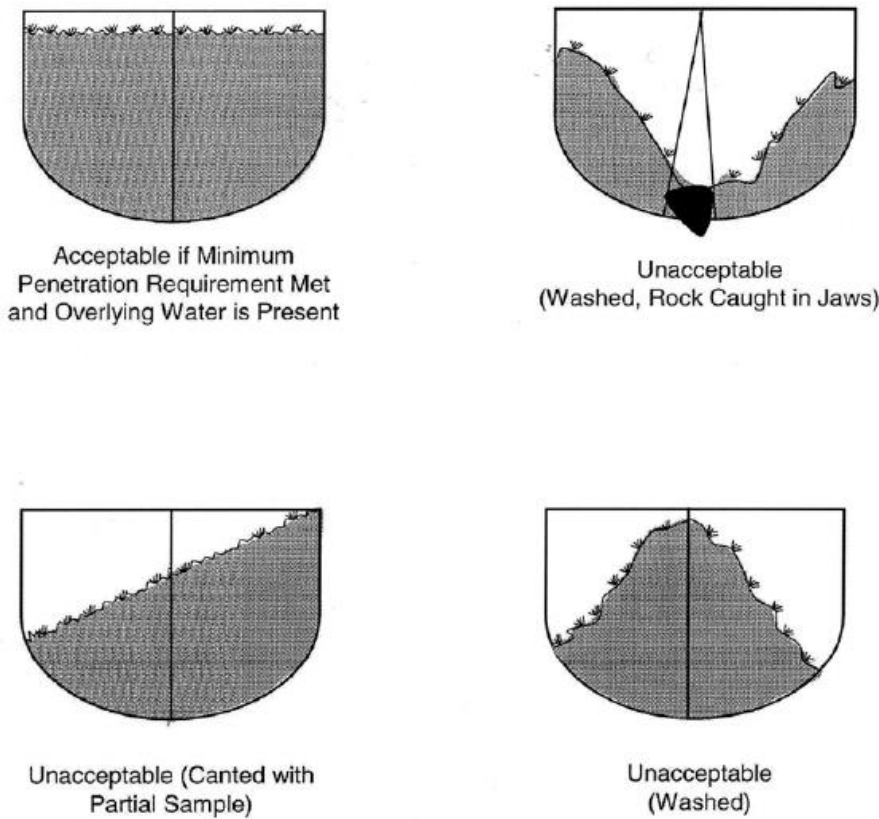

Figure A-1. Examples of Acceptable and Unacceptable Sediment Grab Samples.
8. Check sample acceptability (e.g., closed sampler, not overfilled, adequate penetration depth achieved, minimal winnowing, approximately 10 cm sediment depth collected; Figure A-1). Accept the sample if criteria are met. If not acceptable, then the rejected sediment shall be temporarily stored until sampling at the site has been completed. Rejected sediment can be returned to the site – adjacent to the collection location – once sampling is complete.